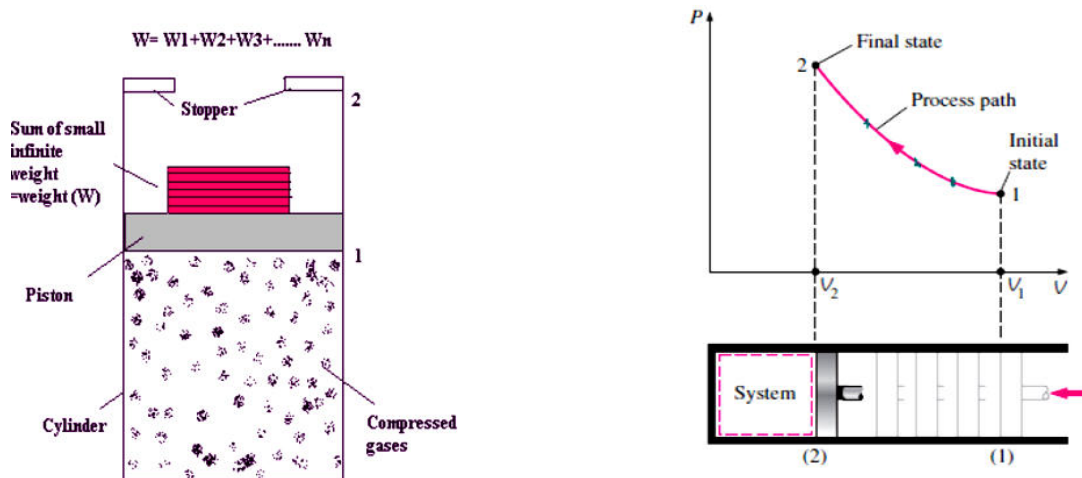

Fig. 1.4 (a) Quasi-Static Process (b) p-v diagram of a compression process
- ✓ Consider a system of gas contained in a cylinder fitted with a piston upon which many very small pieces of weights are placed as shown in Fig.1.4(a).
- ✓ Fig. 1.4(b) shows the p-v diagram of a compression process of a gas.